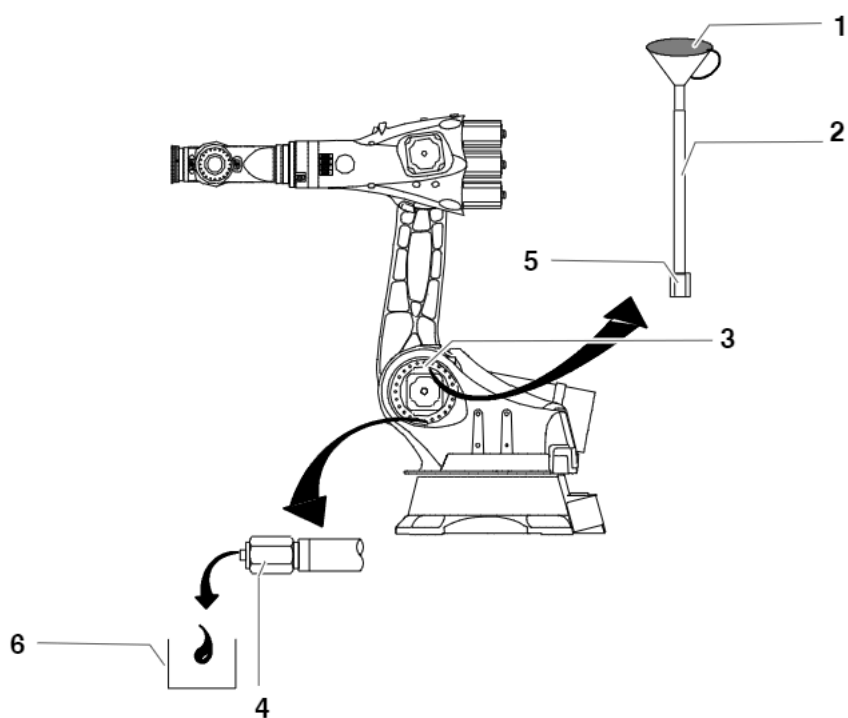

Fig. 4 Changing the oil on axis 2
- (1) Remove sealing cap (Fig. 4/4) and place a suitable receptacle (6) under the drain hole.
- (2) Remove screw plug (3) and catch oil as it drains out.